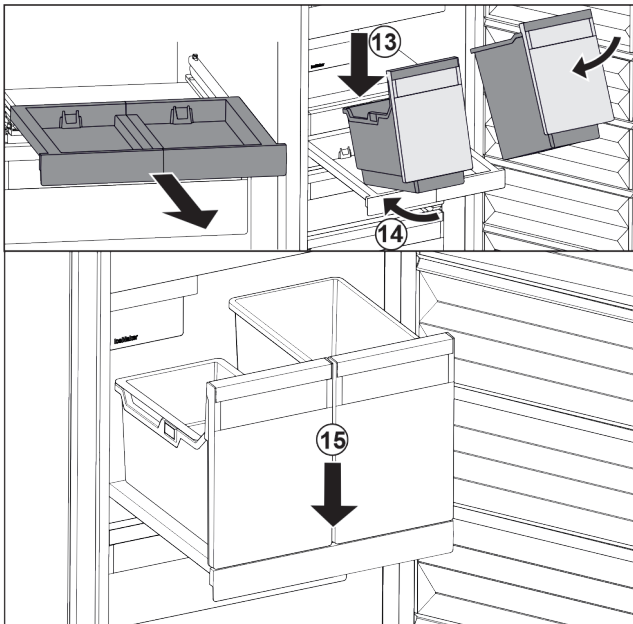

Fig. 88
- ▶ Place the container at an angle on the pull-out board. Fig. 88 (13)
- ▶ Slide in the container at an angle to the back. Fig. 88 (14)
- ▶ Place container at the front. Fig. 88 (15)